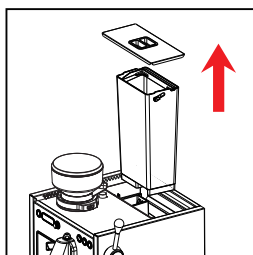

Figure 1
1. Remove the water tank lid and take out the water tank. (Figure 1)